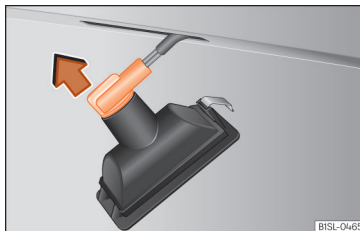

Fig. 92 Number plate light: detach the bulb holder.
- Turn the bulb holder with the bulb **anticlockwise** and remove it in the direction of the arrow » Fig. 92.
- Place the bulb holder in the number plate light and press in the opposite direction to the arrow as far as possible » Fig. 92.